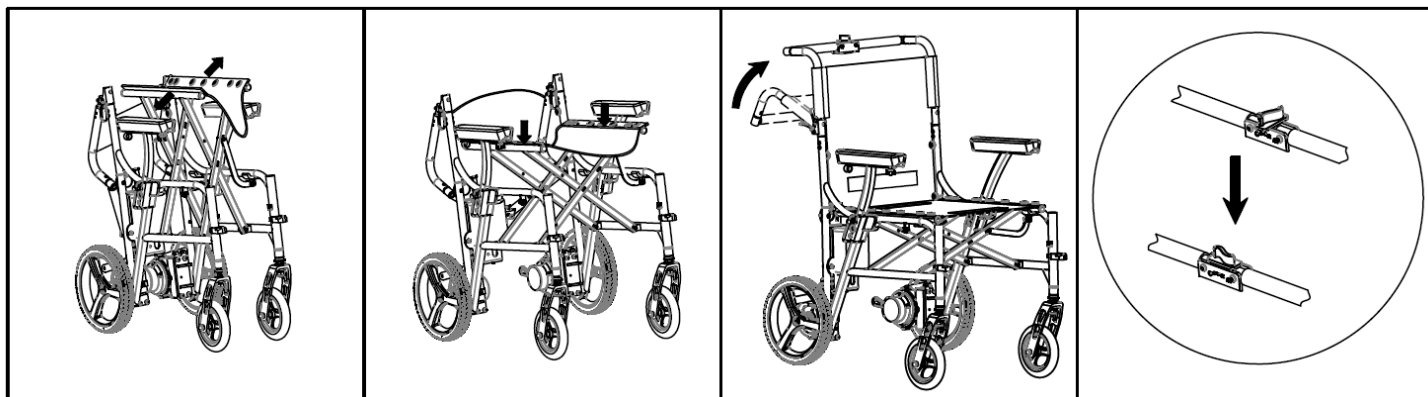

Figure 7.
2. Then hold both ends of the seat, lift up the seat from the middle. **See figure 7**
Hold the handle and lift up. See figure 7